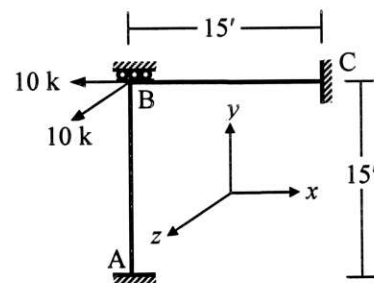

Fig. 5
5. The structure ABC loaded as shown in Fig. 5 is fixed at A and C, and has a guided roller support at B (which restrains deflection in *y*-direction and rotation around all axes; i.e., $u_y = 0$, $\theta_x = \theta_y = \theta_z = 0$). Calculate the deflections u_x and u_z (in *x*- and *z*-direction) at node B for the applied forces [Given: $EA = 400 \times 10^3 \text{ k}$, $EI = 40 \times 10^3 \text{ k-ft}^2$, $GJ = 30 \times 10^3 \text{ k-ft}^2$].